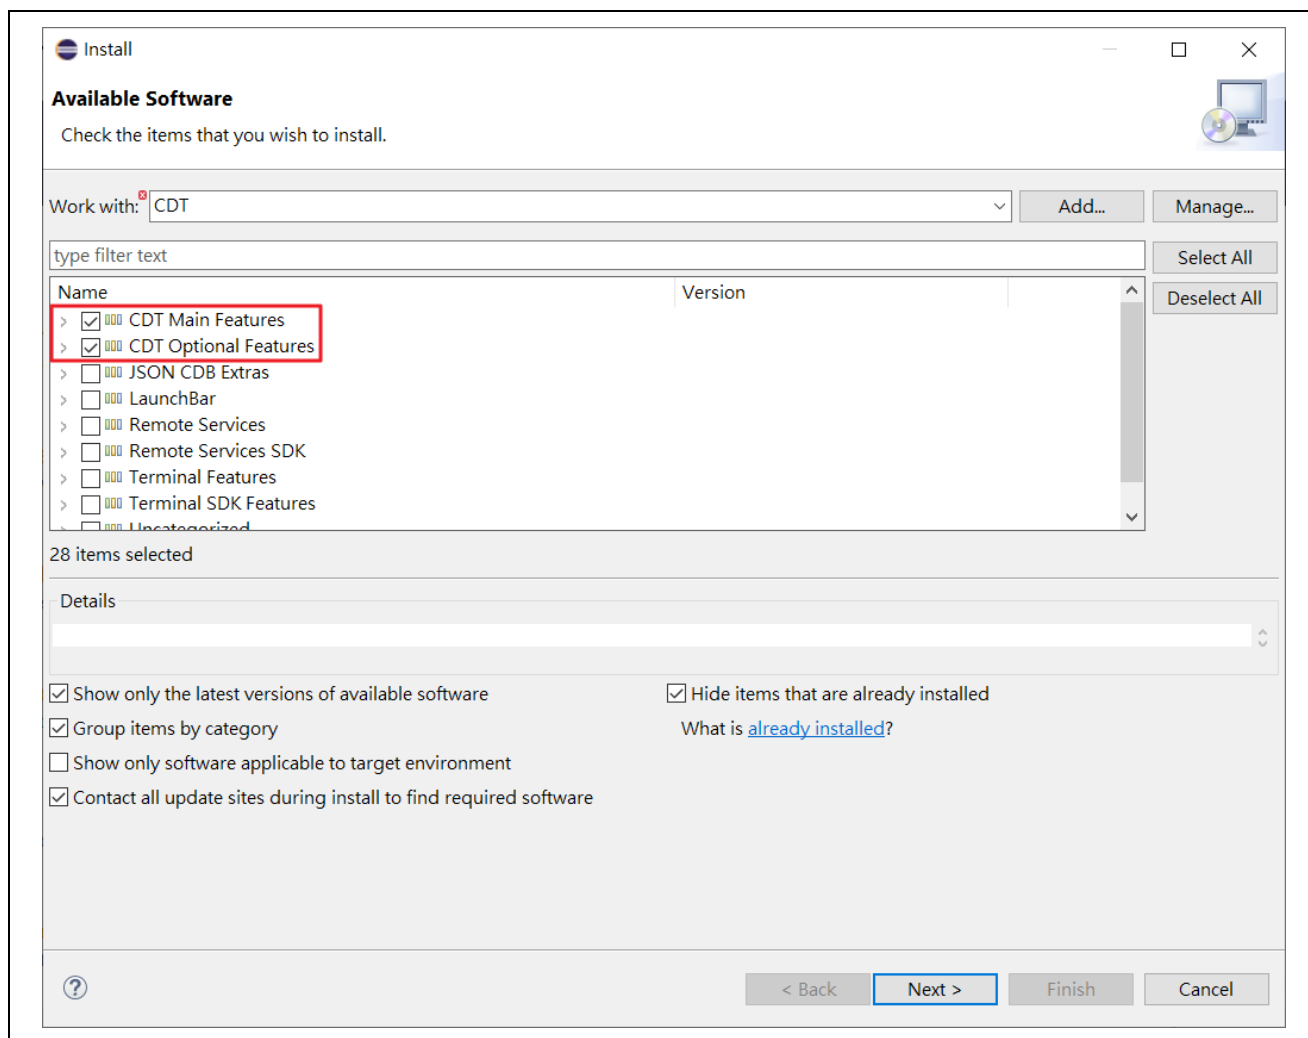

Figure 1-5 Select CDT
5. Select **CDT Main Features** and **CDT Optional Features** as shown in Figure 1-5. Also select other packages if necessary.